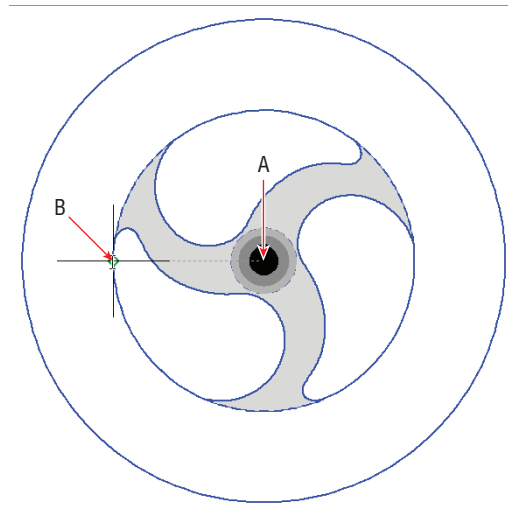

FIGURE 8.8 Drawing a circle
3. Shift+right-click, and choose Node from the context menu. Click point A, shown in Figure 8.8, as the center point. Type **QUA** (for Quadrant), and press Enter. Click point B, also shown in Figure 8.8, to set the inner circle's radius. The **CIRCLE** command ends.